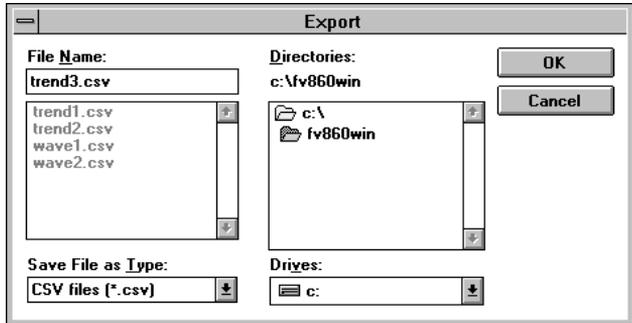

Figure 20. Export Dialog Box
2. Select File - Export. The Export dialog box (Figure 20) appears with .pcx filename extensions.
2. Select File - Export. The Export dialog box (Figure 20) appears with a preset .csv filename extension.
2. Select File - Export. The Export dialog box (Figure 20) appears with .csv filename extensions. All existing .csv files are also listed in this box.